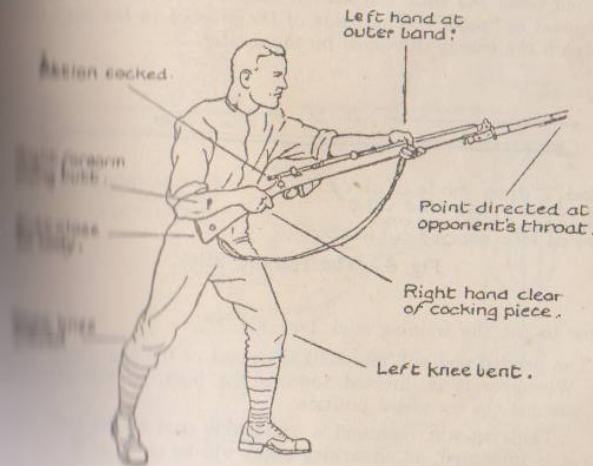

Fig. 1.—On guard.
5. Figures 1 to 5 illustrate the basic positions from which the maximum power and control can be exercised. The instruction is developed in full detail in S.A.T. Vol. I, Pamphlet No. 12. Three examples follow in Sections 2, 3 and 4.